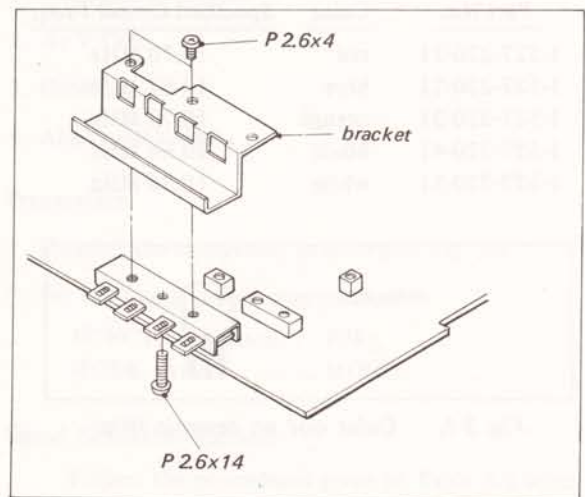

Fig. 2-12. 4-key pushbutton switch replacement
2. Remove the switch bracket by removing the two screws (P 2.6 x 4) shown in Fig. 2-12.
3. Remove the screw (P 2.6 x 14) from the bottom as shown in Fig. 2-12.